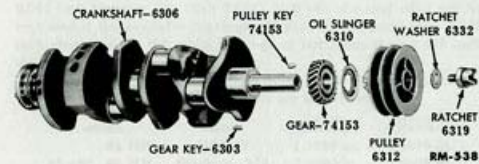

Fig. 11—Crankshaft Assembly, Disassembled
j. **Remove Crankshaft Assembly.** Remove the lock wire and the two crankshaft bearing cap nuts from each main bearing cap. Place a screwdriver between the cylinder block and the boss provided on each side of the front and center bearing cap and pry the caps to release them from the cylinder block. Lift the bearing caps off the studs. Tap the rear main bearing cap off with a soft hammer. Lift the crankshaft from the cylinder block. Remove the main bearings and oil retainers from the cylinder block (fig. 6). If the main bearings are to be used again, they must be marked upon removal in such a manner as to insure their being reassembled in the same positions. Remove the oil slinger from the forward end of the crankshaft (fig. 11).
The disassembled crankshaft and flywheel assemblies are shown in figs. 11 and 13.